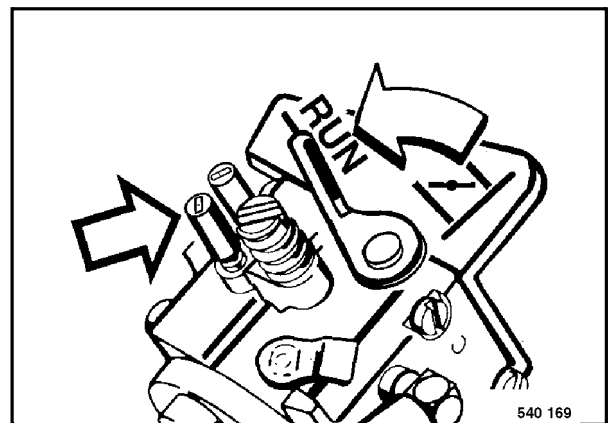

Fig. 3
- Turn the idle speed nozzle (Fig. 3) in clockwise direction, until the idle speed has reached the highest value and engine runs properly.